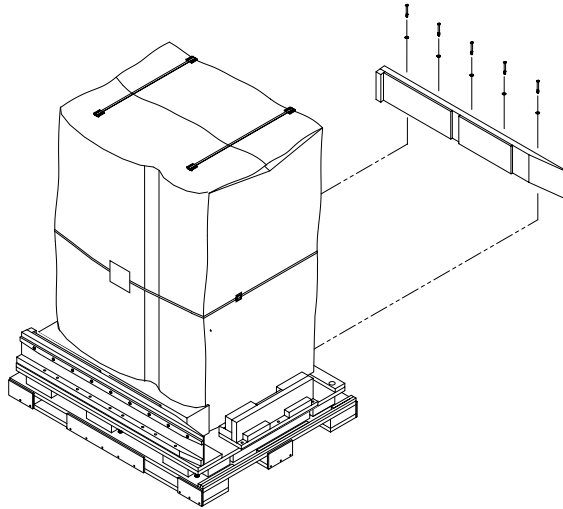

FIGURE 5-18 Attaching the Right Side Ramps for Shipping
15. Attach the right side ramp using the 3/8-16 x 3-1/2" hex bolts (FIGURE 5-18).